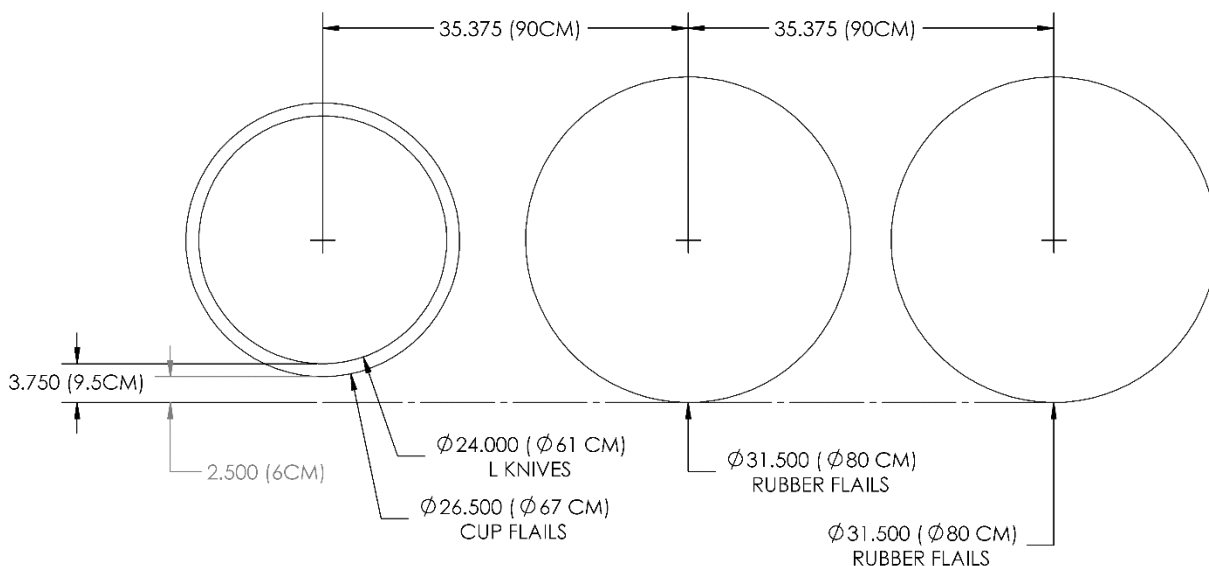

Figure 24: Defoliator Drum Flail Size
7.2.3 Flail Size Drum 1 height as shown in Figure 24 above is designed to run higher than the rear drums 2&3. This is based on its function which is to remove the majority of the beet leaves leaving only
On all 50 series Amity defoliators the 3 drum can be adjusted upwards. With the defoliator run level as intended shown in Figure 24, the front steel drum 1 is 2.5 inches (6cm) (higher than rubber drums 2 and 3; with drum 1 removing the majority of foliage and drums 2 and 3 cleaning the petioles from the crown of the beet. The purpose of drum 3 being adjustable is for beet stands with poor emergence where beet height varies drastically. In this situation when running level the front steel flails would be slicing off the tops of higher beets. Raising the 3rd drum allows the operation to lower the rear of the defoliator and raise the front with the end result of having drum 1 higher. This adjustment may also be used as the flails become worn and the rubber flail's 2.5 inches (6cm) difference in operating height becomes closer to the front steel drum.